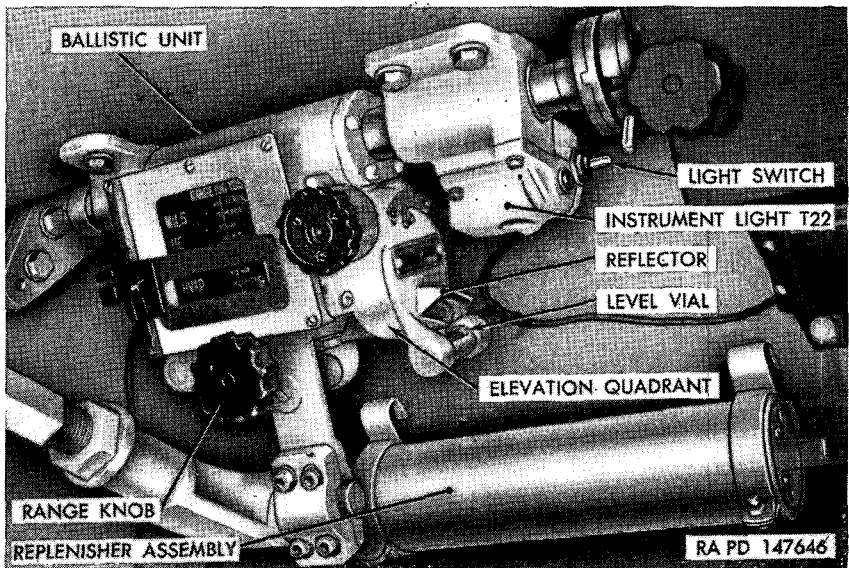
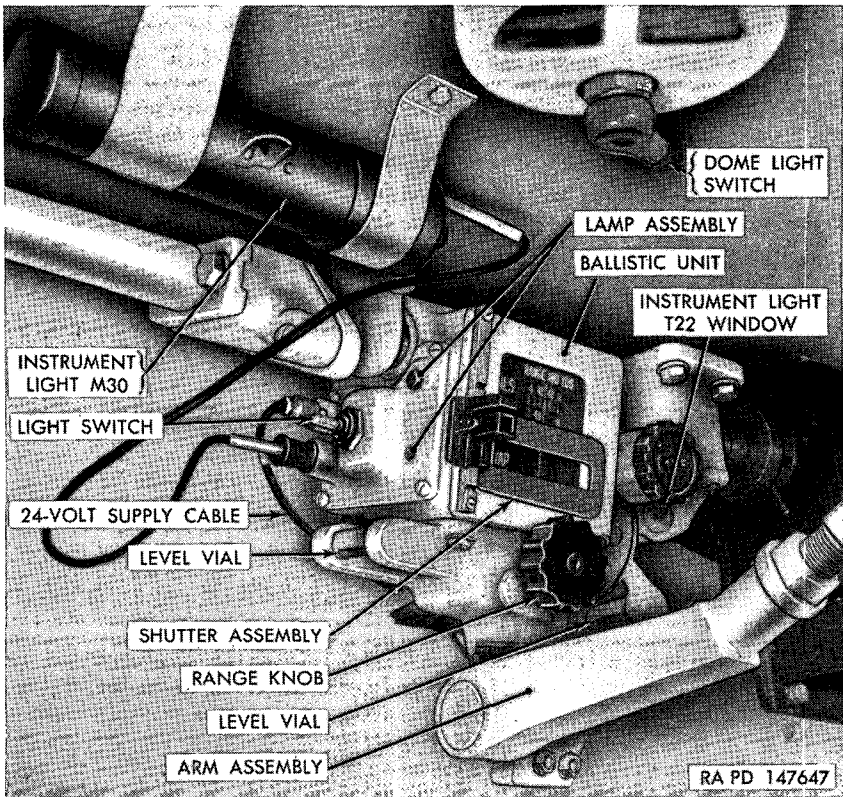

Figure 53. Ballistic drive T23E1—right side view.
Figure 54. Ballistic drive T23E1—left side view.
b. CONTROLS (fig. 54).
- (1) *Shutter assembly spring loaded lever.* A shutter assembly, operated by a spring loaded lever, allows the shutter to be moved up or down to select the desired range scale for the particular type of ammunition used. When the lever is released, the shutter assembly is locked in position in a groove.
- (2) *Range knob.* A range knob on the ballistic unit turns in the desired range on the range scale. The range scales are graduated as shown in table I.
- (3) *Light switch.* The light switch turns off or selects the source of power to illuminate the scales.
c. ILLUMINATION (fig. 54). Two built-in electric lamp assemblies are provided for illuminating the scales of the ballistic unit. The 24-volt supply from the vehicle power source is connected to the upper receptacle while the lower receptacle is provided for receiving the plug from instrument light M30 (par. 64*b*) should the 24-volt supply fail. When the light switch is in the lower position, the 24-volt supply is connected to the ballistic unit; in the upper position instrument light M30 is connected into the circuit and in the middle position no illumination is provided.
b. INSTRUMENT LIGHT M30 (fig. 54). Instrument light M30 is a battery assembly to provide emergency power to the ballistic drive T23E1 in case the main power cable is out of order. A switch on the ballistic drive is used to turn off or to select the source of power.
d. INSTRUMENT LIGHT T22 (fig. 53). Instrument light T22 is used to illuminate the elevation quadrant T21 by directing light to the level vial, scale, and micrometer through a window (fig. 54). The instrument light has a twin receptacle in the rear. The upper receptacle is provided for receiving the plug from the 24-volt vehicle supply
while the lower receptacle is provided for the plug from the instrument light M30 which is for emergency use only. The light switch (fig. 53) has three positions: down, 24-volt supply; up, instrument light M30; middle position, off.